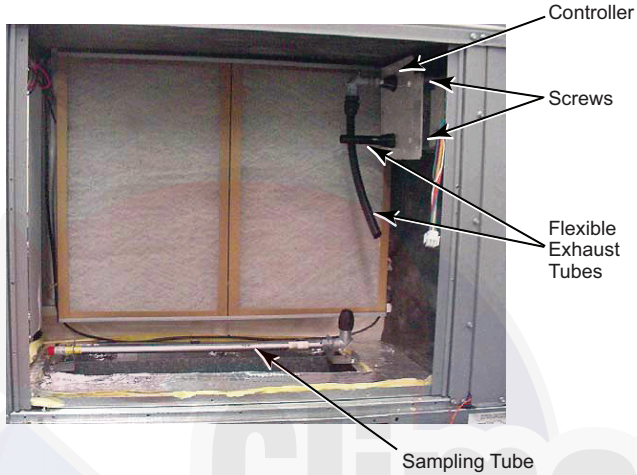

Fig. 53 - Return Air Detector Shipping Position
1. Unscrew the two screws holding the Return Air Sensor detector plate. See Fig. 53. Save the screws.